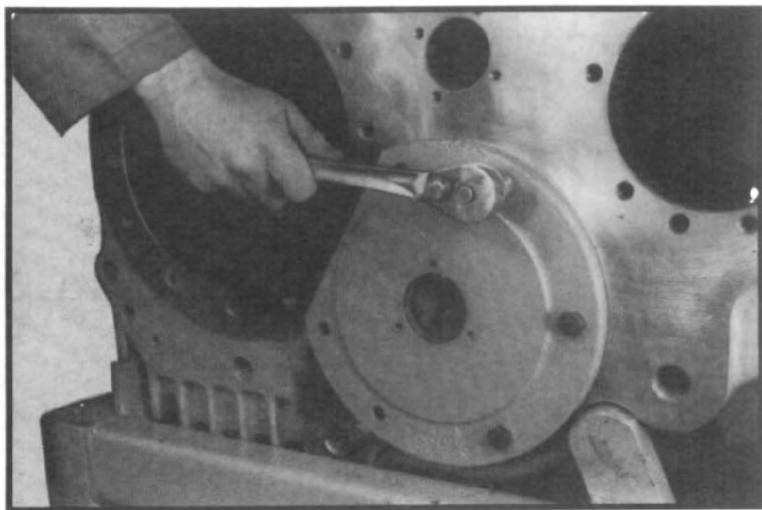

Fig. 77
3. Remove six capscrews each from rear and front bearing caps, tap caps lightly to break loose and remove caps. (See fig. 77.)